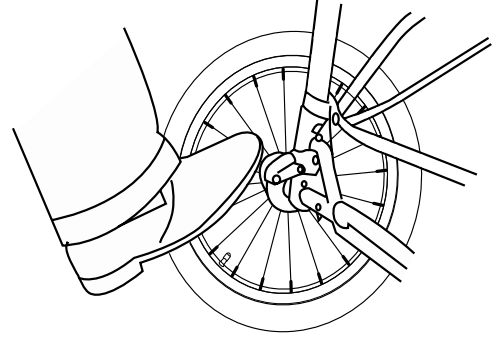

Fig. 10
16. Rear Wheel Brakes: To lock rear wheel brakes, press downward on brake lever located on each rear wheel. (Fig. 10) Please note in order to line up the break tab with brake tab slots stroller may need to be moved forward or backwards slightly. Check to make sure the brakes are in a fully locked position, so stroller will not move when pushed. To release brakes, gently push up on the brake lever.